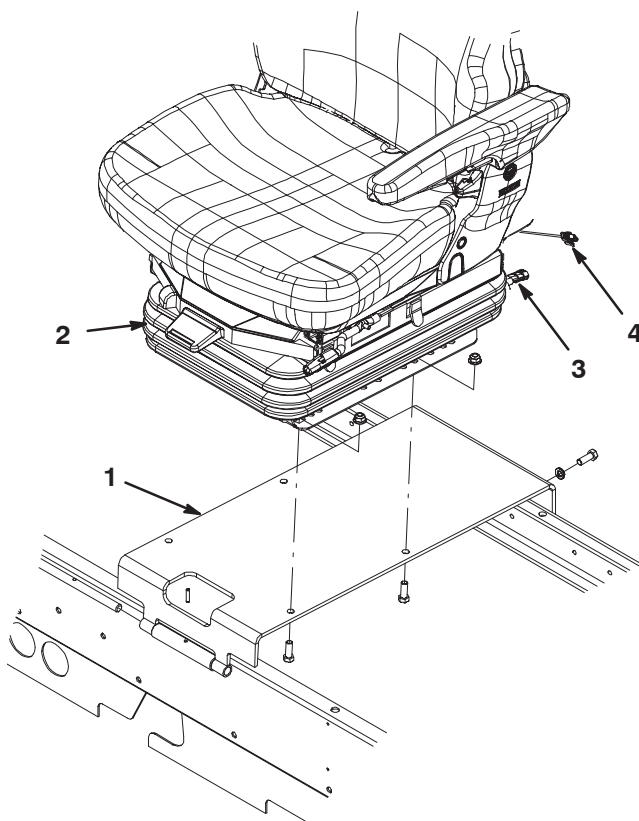

Figure 6
4. Remove the seat base from the machine (Fig. 6).
5. Mount the air ride seat suspension to the seat base with (4) 3/8 x 1-1/8 in. capscrews and flange nuts using the holes shown in figure 6.
6. Re-install the seat base w/ seat suspension to the traction unit with the fasteners previously removed (Fig. 6).